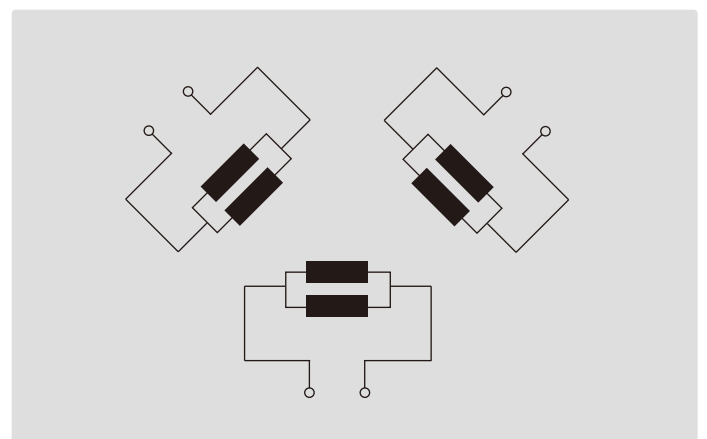

Fig.3 Open delta connection
3. Open delta connection (Fig. 3)